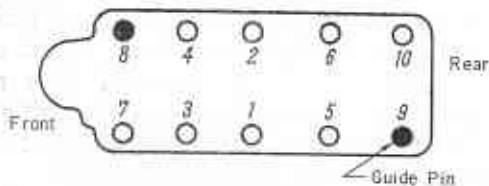

Fig. EM-52 Tightening Sequence of Cylinder Head Bolts
23. Install the cylinder head and a new gasket. To install the cylinder head, install suitable guide pins to No. 8 and 9 cylinder head bolt positions shown in Fig. EM-52, then place a new gasket in position over the guide pins temporarily installed. Carefully guide the cylinder head into place over the guide pins. Install the cylinder head bolts and tighten with a torque of 7.0 to 8.2 kg-m (50.63 to 59.31 ft-lbs). The cylinder head bolts should be tightened in the sequence as shown in Fig. EM-52, and in three stages.